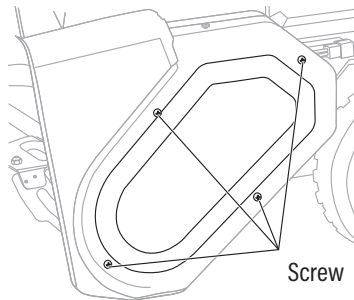

Fig. 1
1. Unscrew the five screws with a Phillips screwdriver to remove the drive belt cover (Fig. 1).